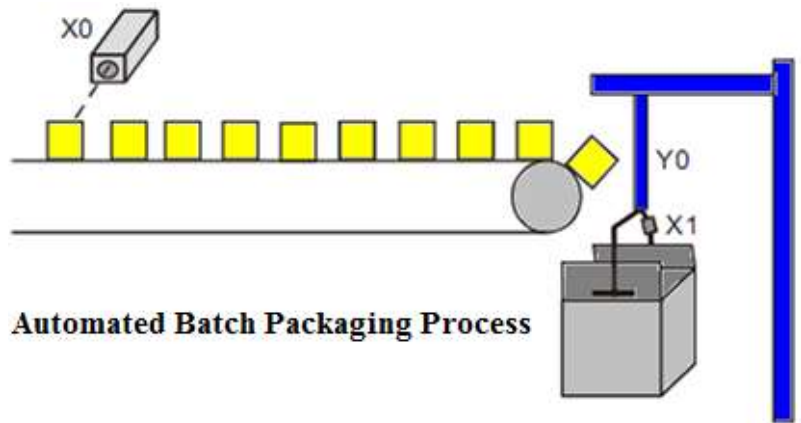

Fig. Q 4C
- 4A. With a neat diagram and corresponding graph, explain the working of a single slope analog to digital converter. (03)
- 4B. With a neat diagram, explain the working of a binary weighted digital-analog converter. For a reference voltage of 5V, create a table of analog voltage output of a 4 bit binary weighted digital-analog converter. Let $R = 100K\Omega$, $R_f = 400K\Omega$. (03)
Fig. Q 4C depicts a typical automated product packaging process. Once, the employed photoelectric sensor (X0) detects 10 products on the conveyer belt, the robotic arm (Y0) automatically packs the product carton placed at the end of the chain. The whole packaging process is reset upon the successful packaging of every batch of 10 products. With appropriate ladder logic, explain the proposed solution to achieve the above stated aim. (04)
- 5A. With neat block diagrams explain the concepts involved in signal measurement and instrumentation related to an ECG measuring system (03)
- 5B. With neat schematics, explain the Bit fields of Standard CAN and Extended CAN. Explain the concept of Arbitration in CAN based data transmission. (03)
- 5C. With a neat diagram and accompanying waveforms of input current, switching current and explain the working of an ideal Boost converter. (04)